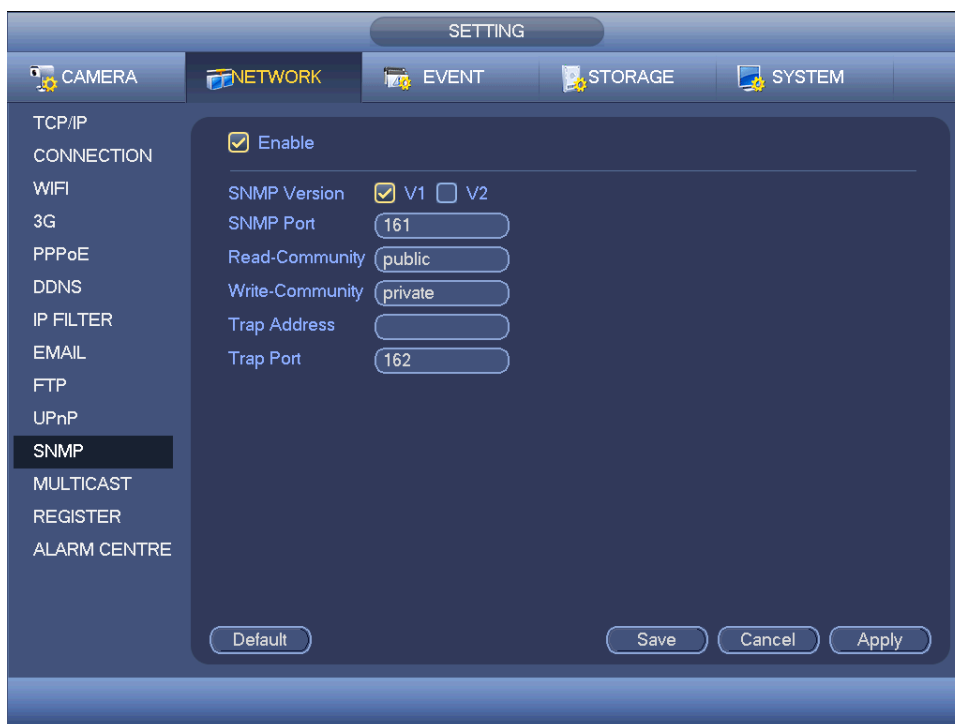

Figure 4-102
You can set in the following interface. See Figure 4-102.
- In Figure 4-102, check the box to enable the SNMP function. Input the IP address of the PC than is running the software in the Trap address. You can use default setup for the rest items.